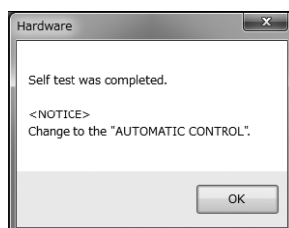
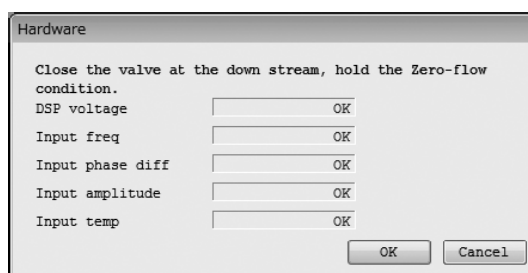

Fig.104
Fig.105
- ④ Click "OK" to execute the checks. Once they are finished, a message box (Fig. 104) will be displayed. Click the "OK" button to complete the hardware check. The results are displayed as shown in Fig. 105.